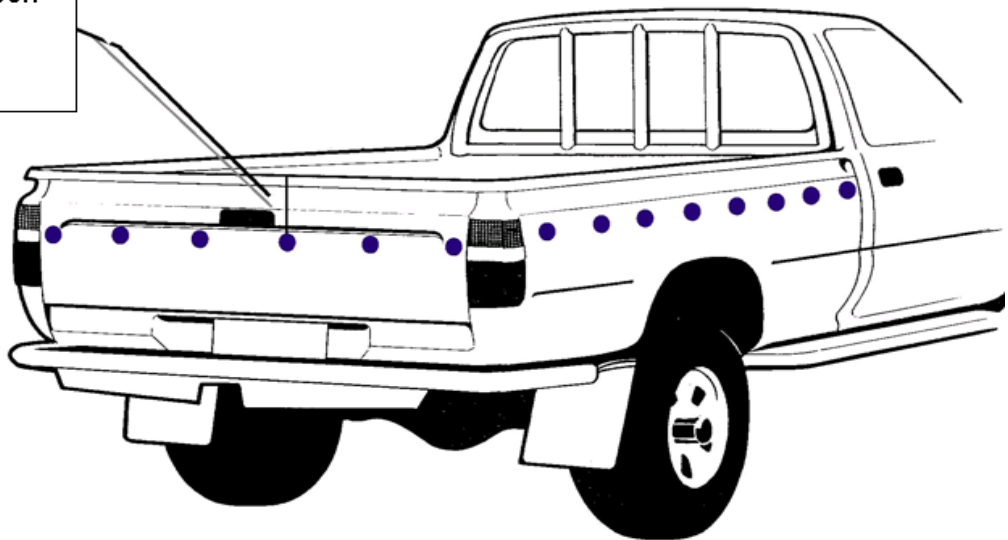

Fig 1
7. To fit the rope buttons. Start with the rear centre eyelet, ensure the Tonneau cover is **centred** and **taught (this is critical)**. Vertically line up each rope button individually to the centre between two eyelets (Fig 1).